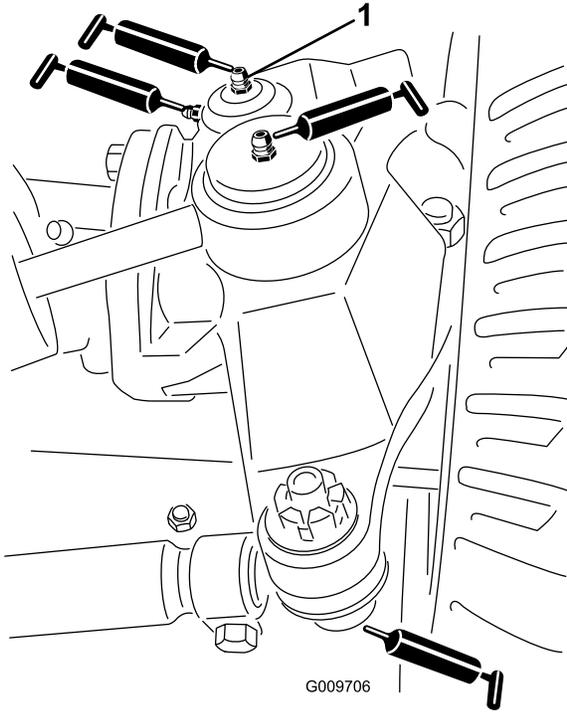

Figure 48
- Steering cylinder ball joints (2) (Figure 48)
- Tie-rod ball joints (2) (Figure 48)
- King-pin bushings (2) (Figure 48). **The top fitting on the king pin should only be lubricated annually (2 pumps).**